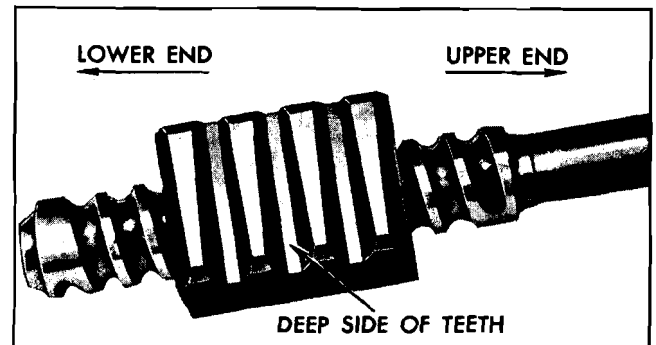

Fig. 9-52 Ball Nut Properly Installed on Shaft
1. Position ball nut on shaft so that deep side of teeth are located as shown in Fig. 9-52.